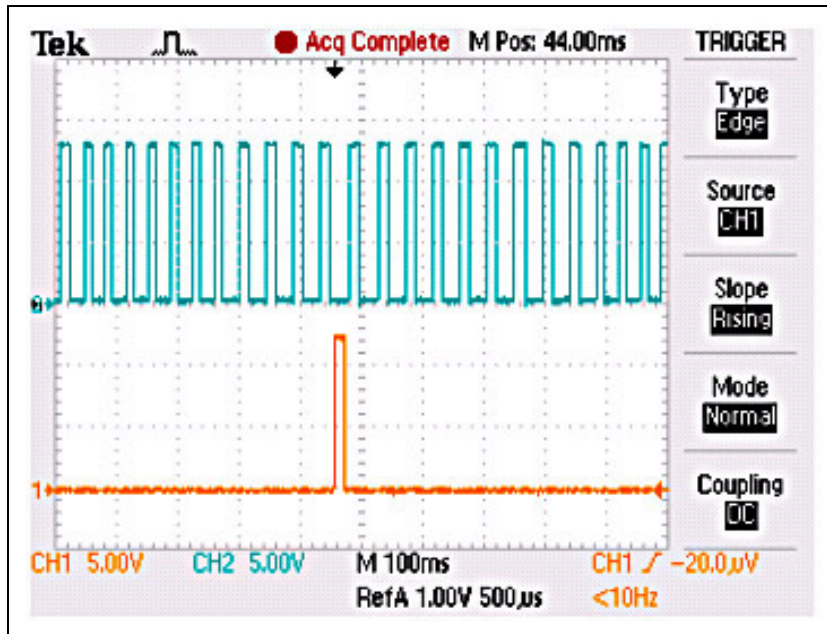

Figure 6.
- b) The EPM puts out a 12V square wave, 24 crank signals and 1 short pulse cam signal every 360 distributor degrees, see figure 6.